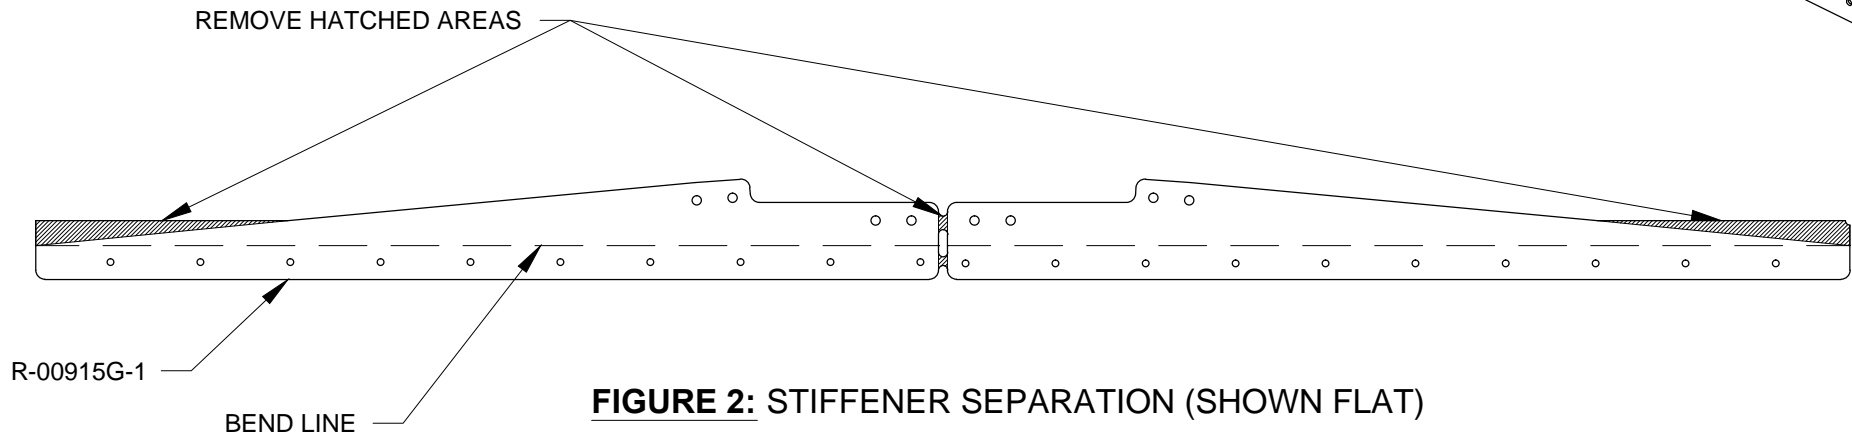

FIGURE 2: STIFFENER SEPARATION (SHOWN FLAT)
Step 2: Separate the R-00915A-1, R-00915B-1, R-00915C-1, R-00915D-1, R-00915E-1, R-00915F-1 and R-00915G-1 Stiffeners into individual left and right sections by removing the hatched areas as shown in Figure 2. Remove the hatched areas on the outer edges of parts as shown in the figure. Deburr.